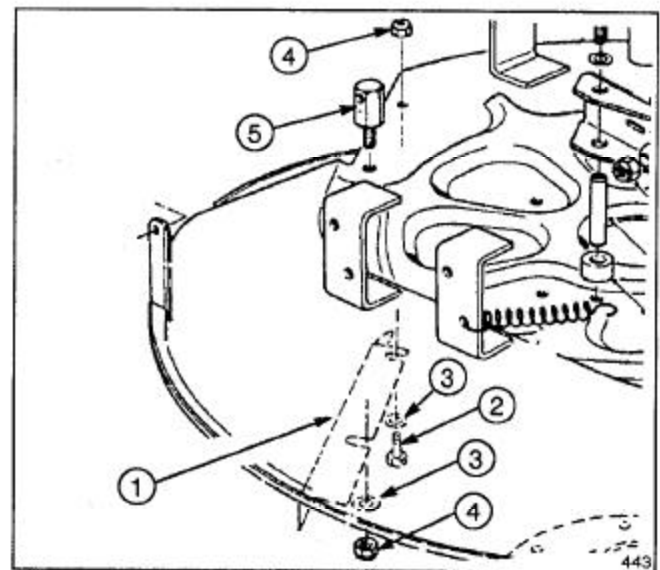

Figure 3
**REMOVE DECK Baffle (Fig. 3)**